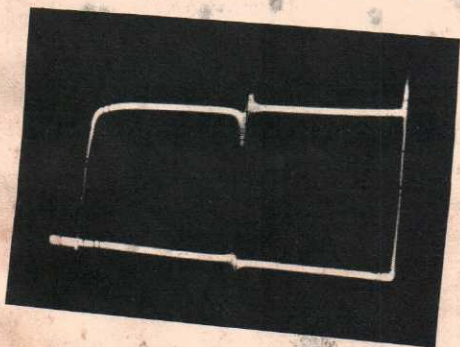

Figure 37. 10.7 Mc Sweep Trace
5. Remove 455 kc crystal from crystal socket, and insert 10.7 Mc crystal. Set the Range Switch to "10.7 MC SWEEP". Adjust core of coil L-8 so that 10.7 Mc marker is in center of trace, as shown in Figure 37.*